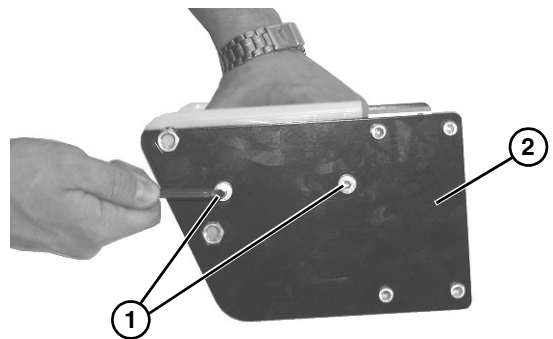

Figure 55
4. Remove two low head cap screws (**Figure 55, item 1**) from plate (**Figure 55, item 2**). Repeat procedure on opposite side.